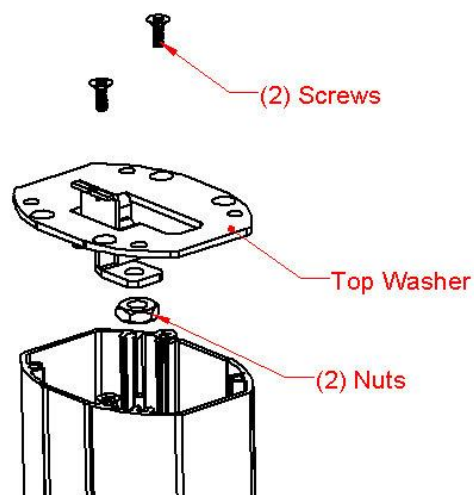
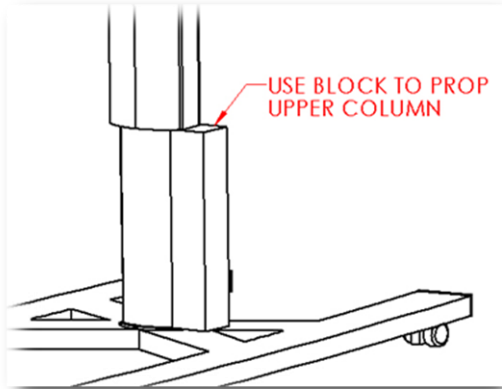

Figure 7
Figure 10
5.5 Remove the top washer by removing the 2 screws that are attached to the upper column, NOTE: keep hold of the upper column while removing the screws to prevent the column from dropping. Next loosen the 2 nuts holding the gas spring to the top washer. Remove the top nut & the top washer & set aside (Figure 7).
5.11 Attach the top washer removed in step 5.5 to top of gas spring. Thread on the top nut. Adjust the nut setting so that the "L" lever is perpendicular (Figure 7).
5.12 Attach the upper column to the top washer. Use the provided block to boost the upper column (Figure 10). Activate the gas spring lever and push the top plate down, aligning the plate and column holes. Attach with the 2 screws removed in step 5.4 (Figure 7).